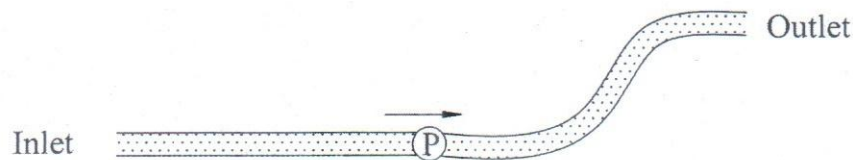

Fig.: 5
- (b) A pump lifting water (Fig. 5) at $0.08 \text{ m}^3/\text{s}$ adds $12 \text{ N}\cdot\text{m}/\text{N}$ to the flow. The suction line diameter is 200 mm , and at intake (elevation 50 m) the water pressure is 72 kPa . The discharge line diameter is 150 mm , and at outlet (elevation 56 m) the water pressure is 60 kPa . Sunshine striking the pipe adds $5 \text{ J}/\text{N}$ of heat to the water. Find the change in water temperature between inlet and outlet. Assume specific weight of the water remains constant at $9.81 \text{ kN}/\text{m}^3$. (11)